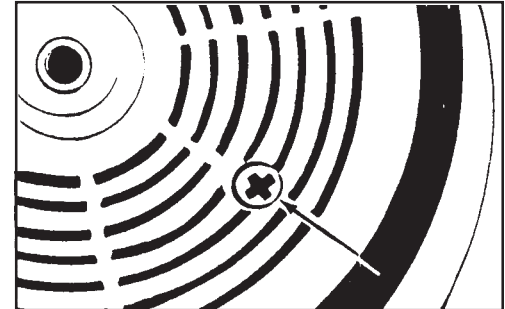

Figure 10
3. Align both holes with one of the three screws in the gear housing cover. Remove the screw from the gear housing cover. See figure 10.